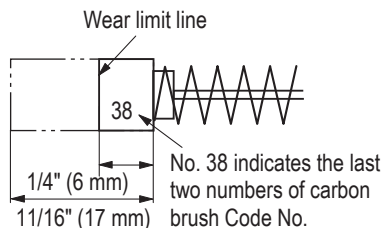
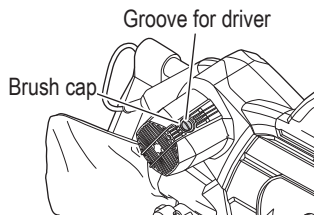

Fig. 51
Fig. 52
2. Inspecting the carbon brushes (Fig. 51 and Fig. 52)
The carbon brushes in the motor are expendable parts. If the carbon brushes become excessively worn, motor trouble might occur. Therefore, inspect the carbon brushes periodically and replace them when they have become worn to the wear limit line as shown in Fig. 51. Also, keep the carbon brushes clean so that they will slide smoothly within the brush holders. The carbon brushes can easily be removed after removal of the brush caps (see Fig. 52) with a slotted (minus) screwdriver.
When replacing the carbon brushes, use only metabo HPT carbon brushes having "38" in the last two digit of its Code No. (see Fig. 51). If you use other carbon brushes, the electric brake will not operate.